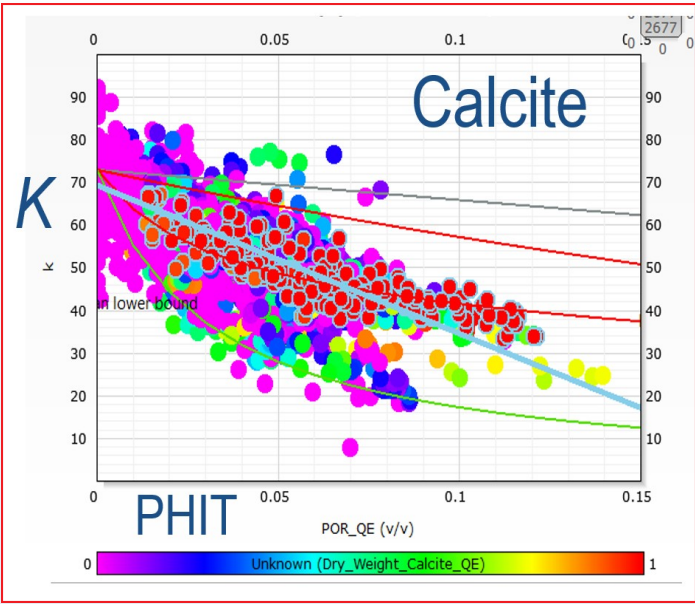

Figure 3: Cross plot of bulk modulus calculated from well logs versus total porosity with dry weight calcite volume plotted in color scale.
**Figure 1** shows the general workflow used to estimate pore type concentrations and synthetic Vs logs in order to characterize the best storage facies in JSK Reservoir. The workflow begins with computing the bulk and shear modulus logs in nearby wells (C and K') having shear log information. Elastic parameter values for each mineral were estimated from elastic parameters ( $K$ ,  $\mu$ ) versus total porosity cross plots with the dry weights of minerals plotted in colors (**Figure 3**). Elastic parameters for each mineral were mixed using the Voigt-Reuss-Hill rule of mixing (Hill, 1952).
The workflow shown in *Figure 1* was applied to estimate pore type concentration and synthetic Vs logs for the nearby wells. This workflow started with estimating the elastic parameter (density, bulk, and shear modulus) values for each mineral. *Figure 3* shows this process in a bulk modulus (computed from well logs) versus total porosity (PHIT) cross plot with dry weight calcite volume plotted in color. High values of calcite volume are selected so that only these selected points are used for regression estimation to obtain the elastic parameter value at zero porosity.